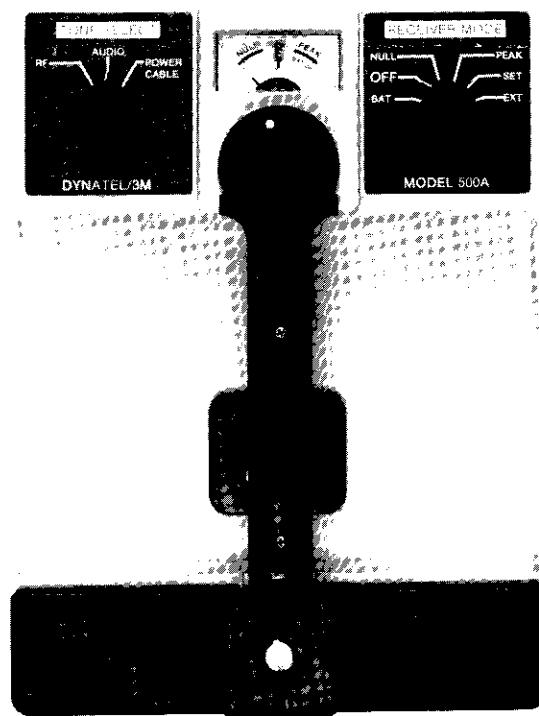

Fig. 4 — Receiver Unit
2.03 The RECEIVER operating panel (Fig. 4) has two selector switches flanking a level reference meter and sensitivity control. The tracing frequency is selected by the TONE SELECT switch, and the RECEIVER MODE switch controls the receiver operating modes.